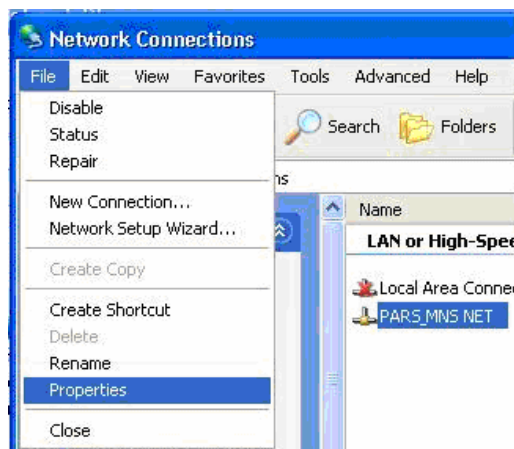

Figure 1-34. Select PARS_MNS NET Properties
7. Select **File** and **Properties** on the "Network Connections" menu bar (Figure 1-34).